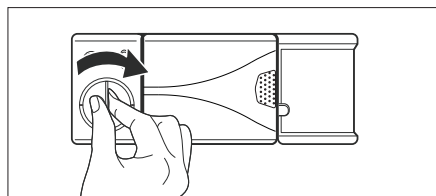

Fig. 5
4. After filling close the rinse aid dispenser cover and tighten it (Fig. 5).